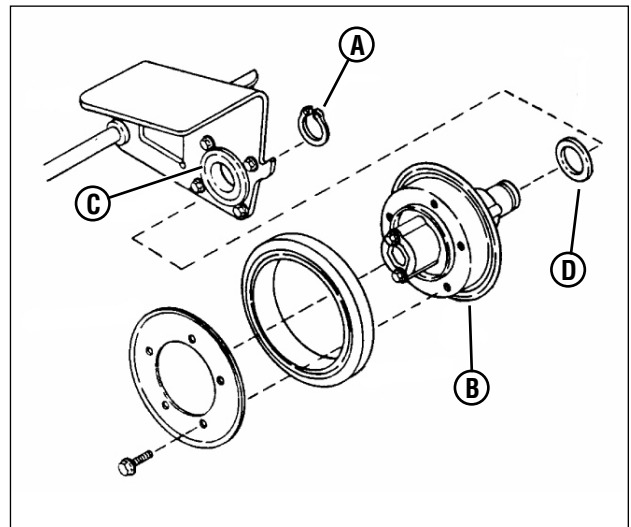

Figure 33: Replacing the driven disc bearing
- Remove the snap ring (A, Figure 33) that secures the driven disc hub (B) to the thrust plate.
- Slide the driven disc hub out of the bearing (C).
*NOTE: Be sure to replace the shim washer (D) when reassembling the driven disc assembly.*